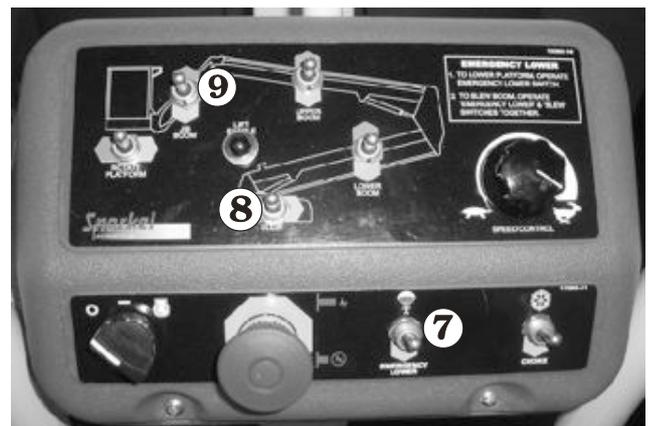

Figure 9.4
7. Hold the **Emergency Lower** switch ⑦ (see Figure 9.4) down and the platform will begin lowering.
8. To lower the jib boom, operate the **Emergency Lower** switch ⑦ and the **Jib Boom Lower** ⑧ switches together (see Figure 9.4).
9. To slew the boom, operate the **Emergency Lower** ⑦ and **Slew** ③ switches together (see Figure 9.4).